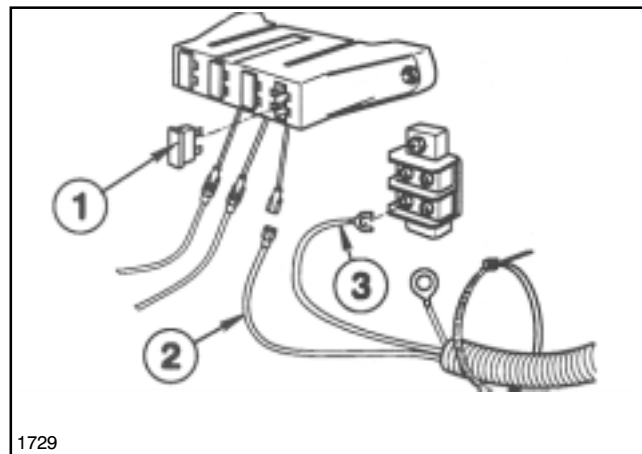

FIG. 4
10. Route Harness to Fuse Block under Operator Seat. Connect power and ground wires as shown in FIG. 4.